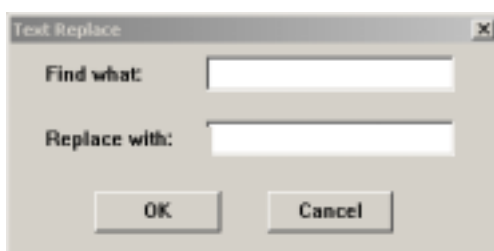

Fig. 7-28
2. Click Text->Replace in the menu bar, and a dialogue box appears. (Fig. 7-28)